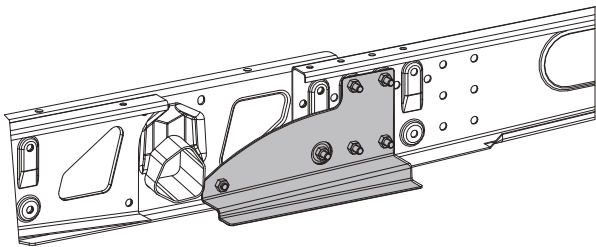

Fig. 18
- Suitable for caravans up to 1800 kg and an AL-KO M chassis with adjustable beams (Fig. 18).